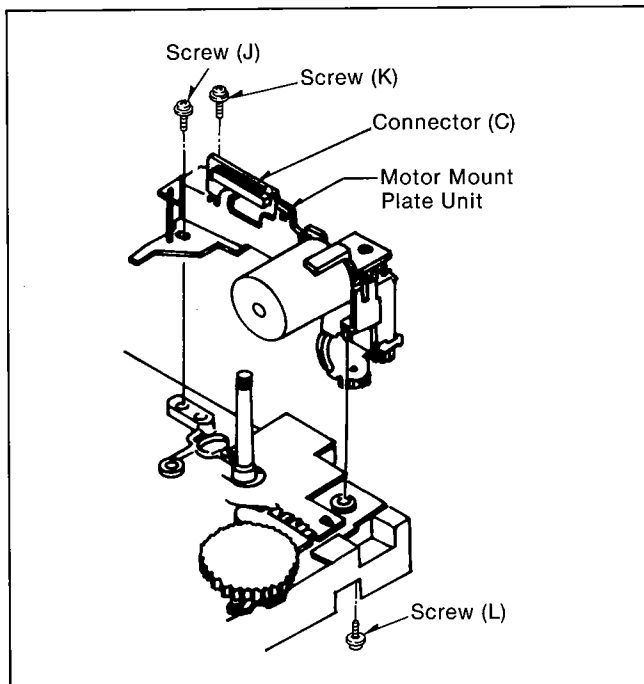

Figure MA21
1. Disconnect a (C) connector on the Rev Motor connection C.B.A. as shown in Figure MA21.
3. Unscrew 3 screw (J), (K), (L) and remove the Motor Mount Plate Unit as shown in Figure MA21.
4. Unscrew the 3 screws and remove the Motor Mount Plate Unit as shown in Figure MA21.